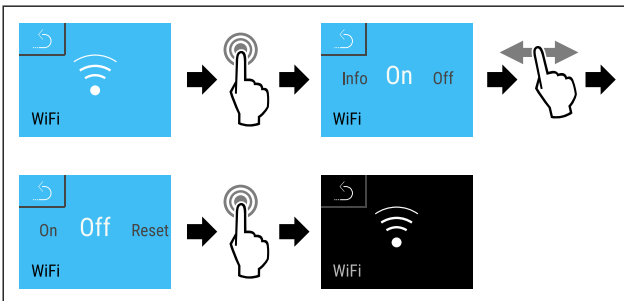

Fig. 120
- ▶ Complete the steps (see Fig. 120) .